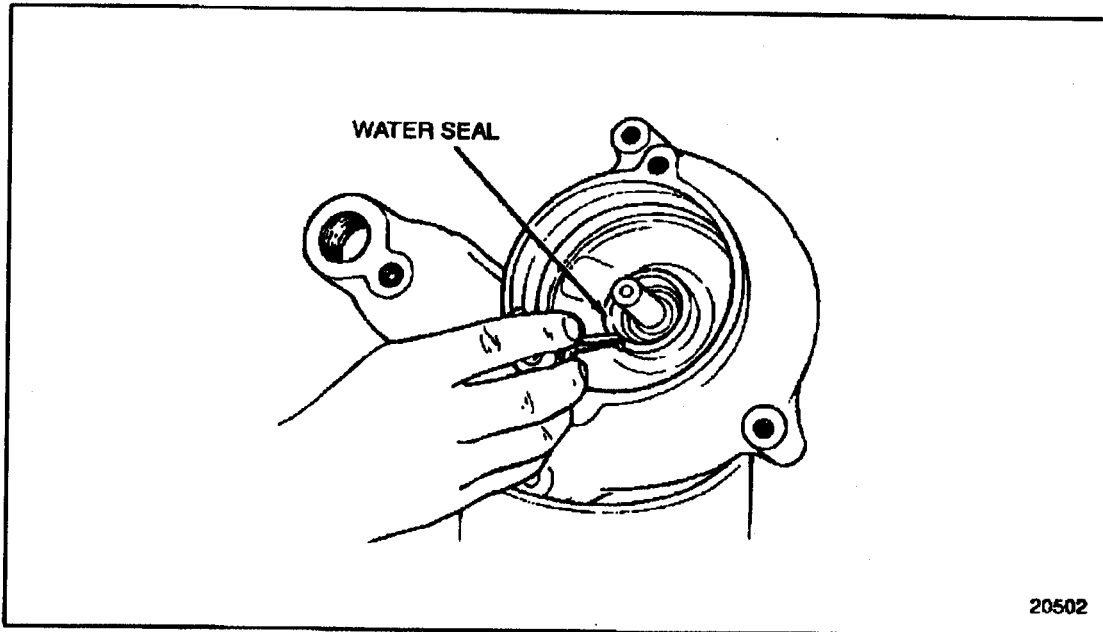

Figure 4-54 **Sealer Installation**
11. Turn the water pump housing over. Working through the front, apply a coating of Aviation Form-a-Gasket, Form-a-Gasket No. 3 or equivalent to the area where the water pump seal case contacts the pump body. See Figure 4-54.